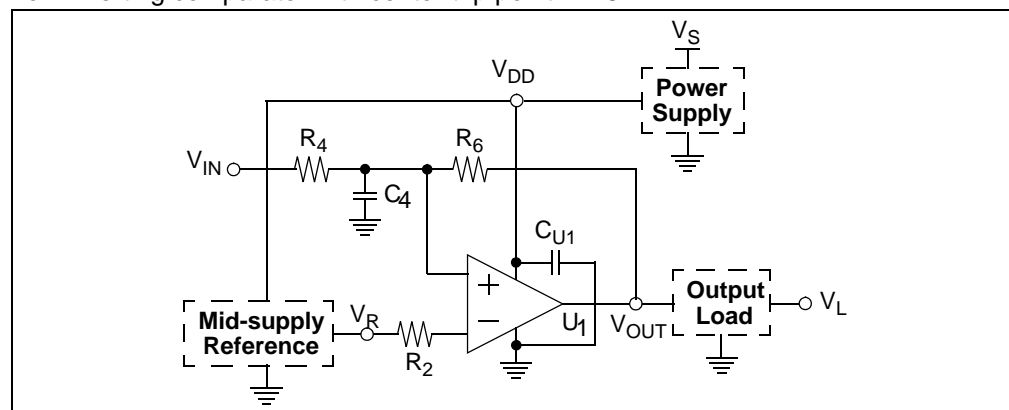

FIGURE 2-14: Non-Inverting Comparator Circuit Diagram.
- The Mindi™ Amplifier Designer gives design recommendations for the non-inverting comparator circuit; see the circuit diagram shown in Figure 2-14